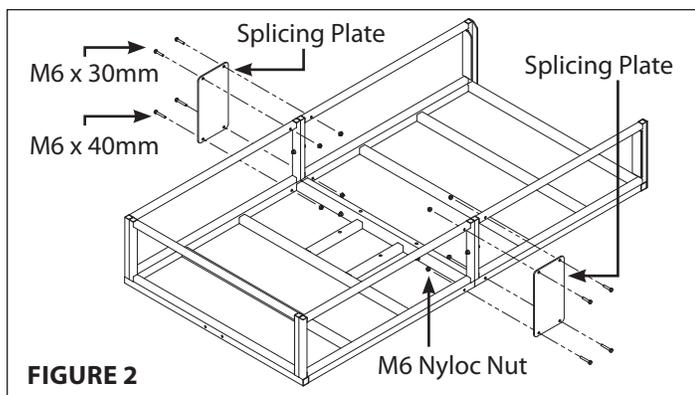

FIGURE 2
2. Attach the splicing plates (24791) on both sides using (4) M6 x 30mm bolts and (4) M6 flange nyloc nuts in the top two holes on both sides of the baskets. **SEE FIGURE 2.** Using (4) M6 x 40mm and (4) M6 flange nyloc nuts, fasten the splicing plate to the baskets through the bottom two holes on both sides. **SEE FIGURE 2.**